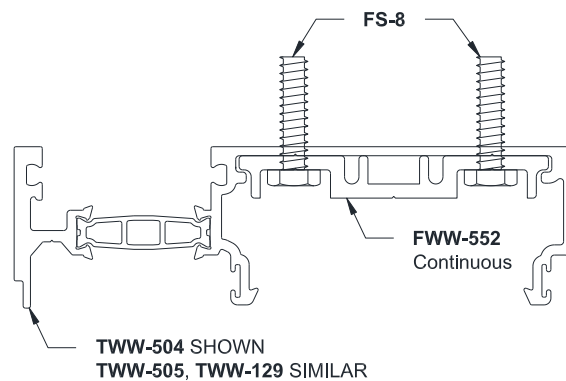
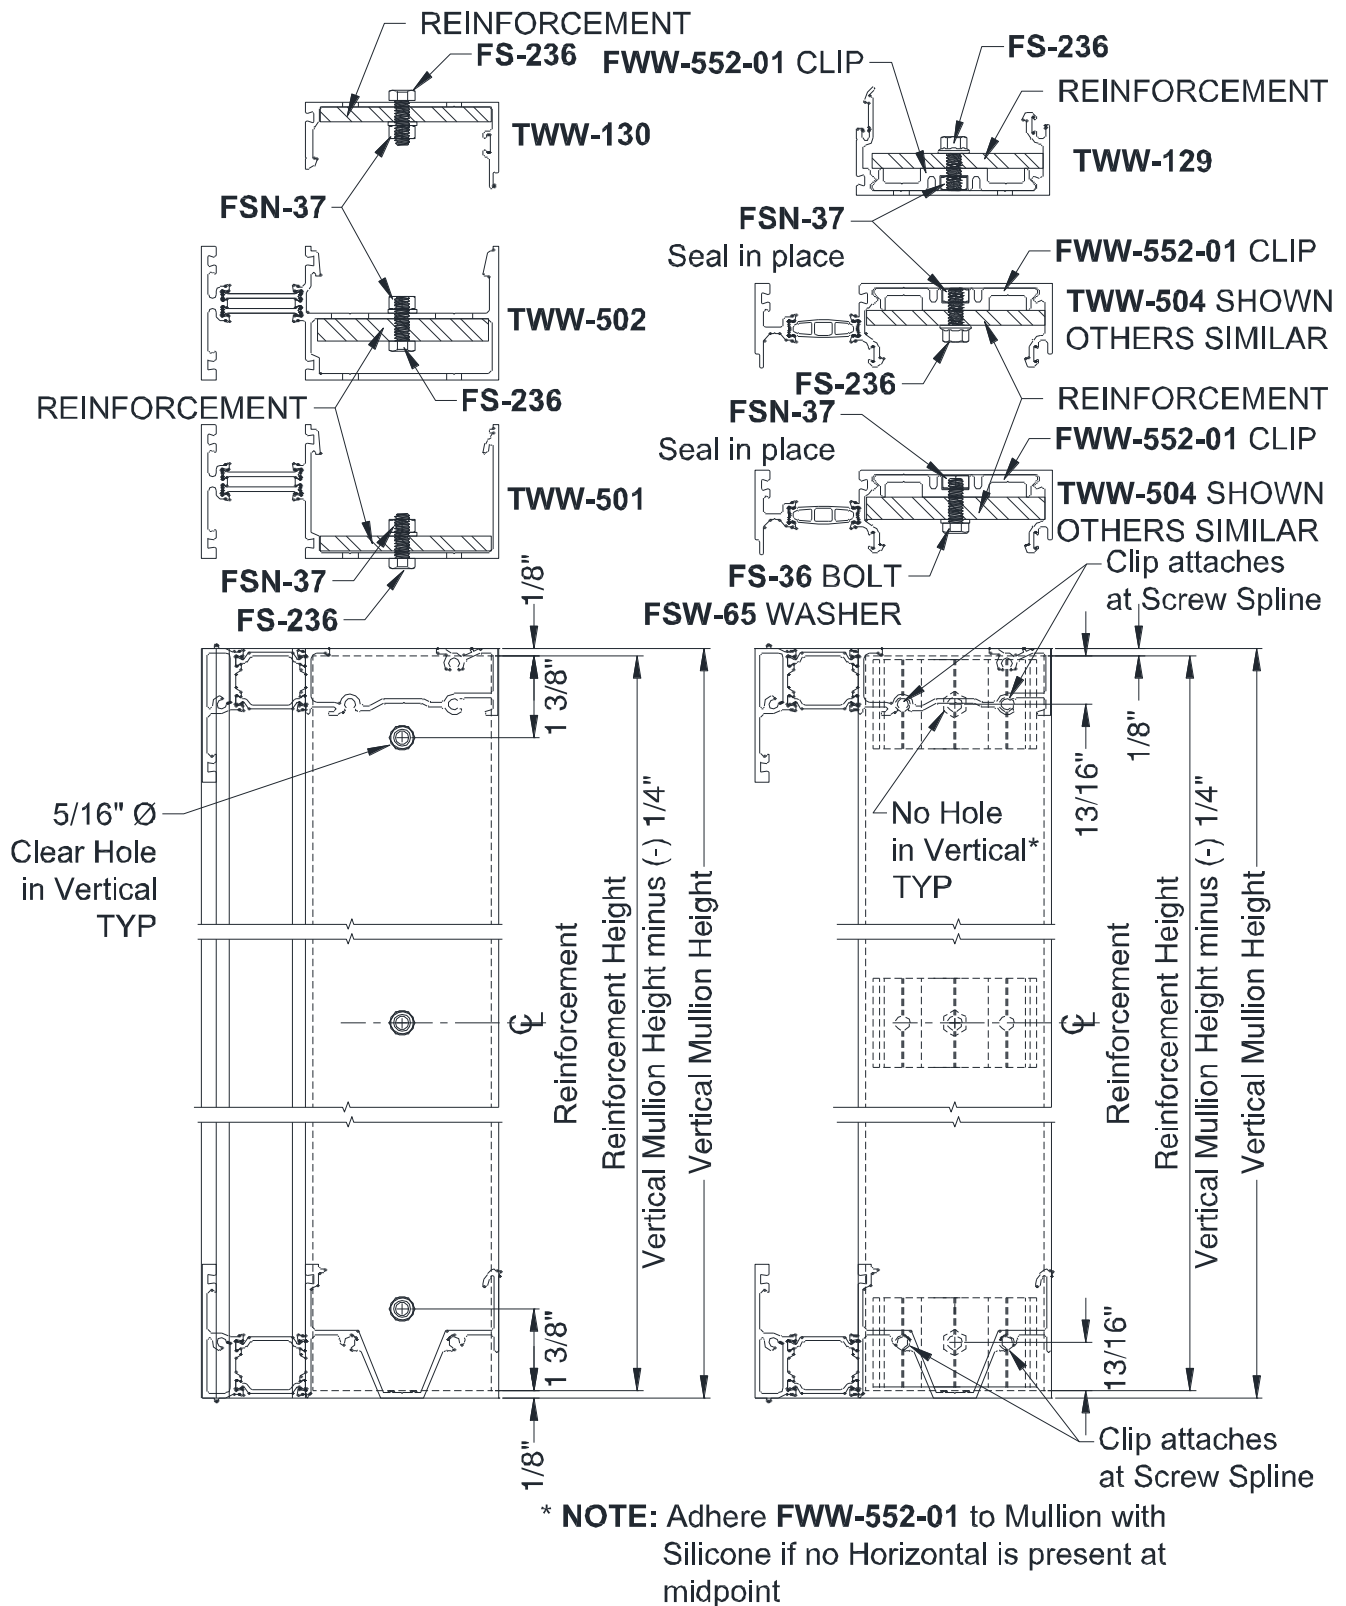

Figure 13: FWW-552 Continuous Reinforcement Attachment
Figure 14: Reinforcement Bar Guide
- 5.1.2 Slide the Reinforcement into Vertical following the location shown in *Figure 14*.
- 5.2.4 Anchor Horizontal members through **FWW-552** per *Section 12.0* panel assembly. See *Figure 13* and *Figure 14* for section visuals.
- 5.3.6 Slide reinforcement bar into place and secure into place using **FS-236** fasteners for 1/4" thick reinforcement or **FS-36** and **FSW-65** for 3/8" thick reinforcement. See *Figure 14*.